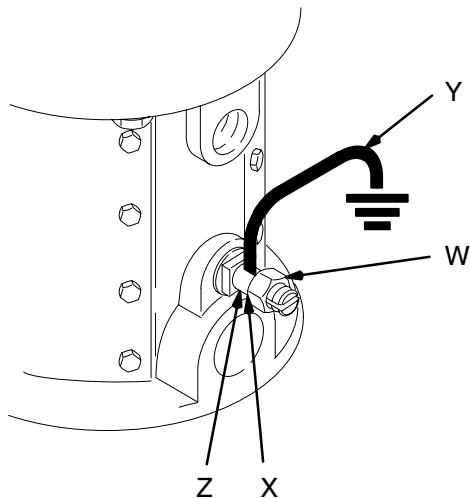

Fig. 1
1. *Pump*: use a ground wire and clamp. See Fig. 1. Loosen the grounding lug locknut (W) and washer (X). Insert one end of the ground wire (Y) into the slot in lug (Z) and tighten the locknut securely. Connect the other end of the wire to a true earth ground. Order Part No. 237569 Ground Wire and Clamp.